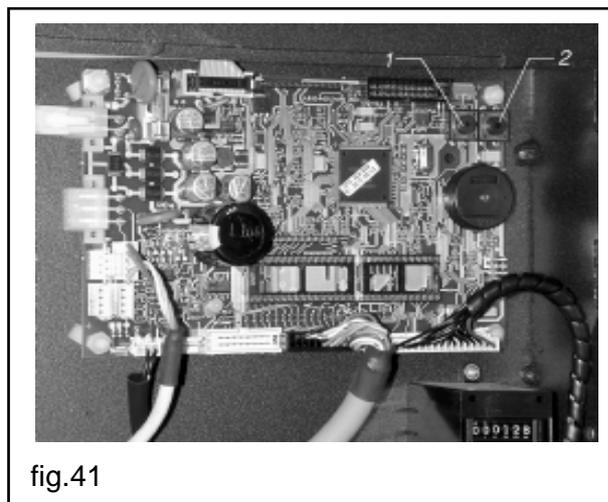
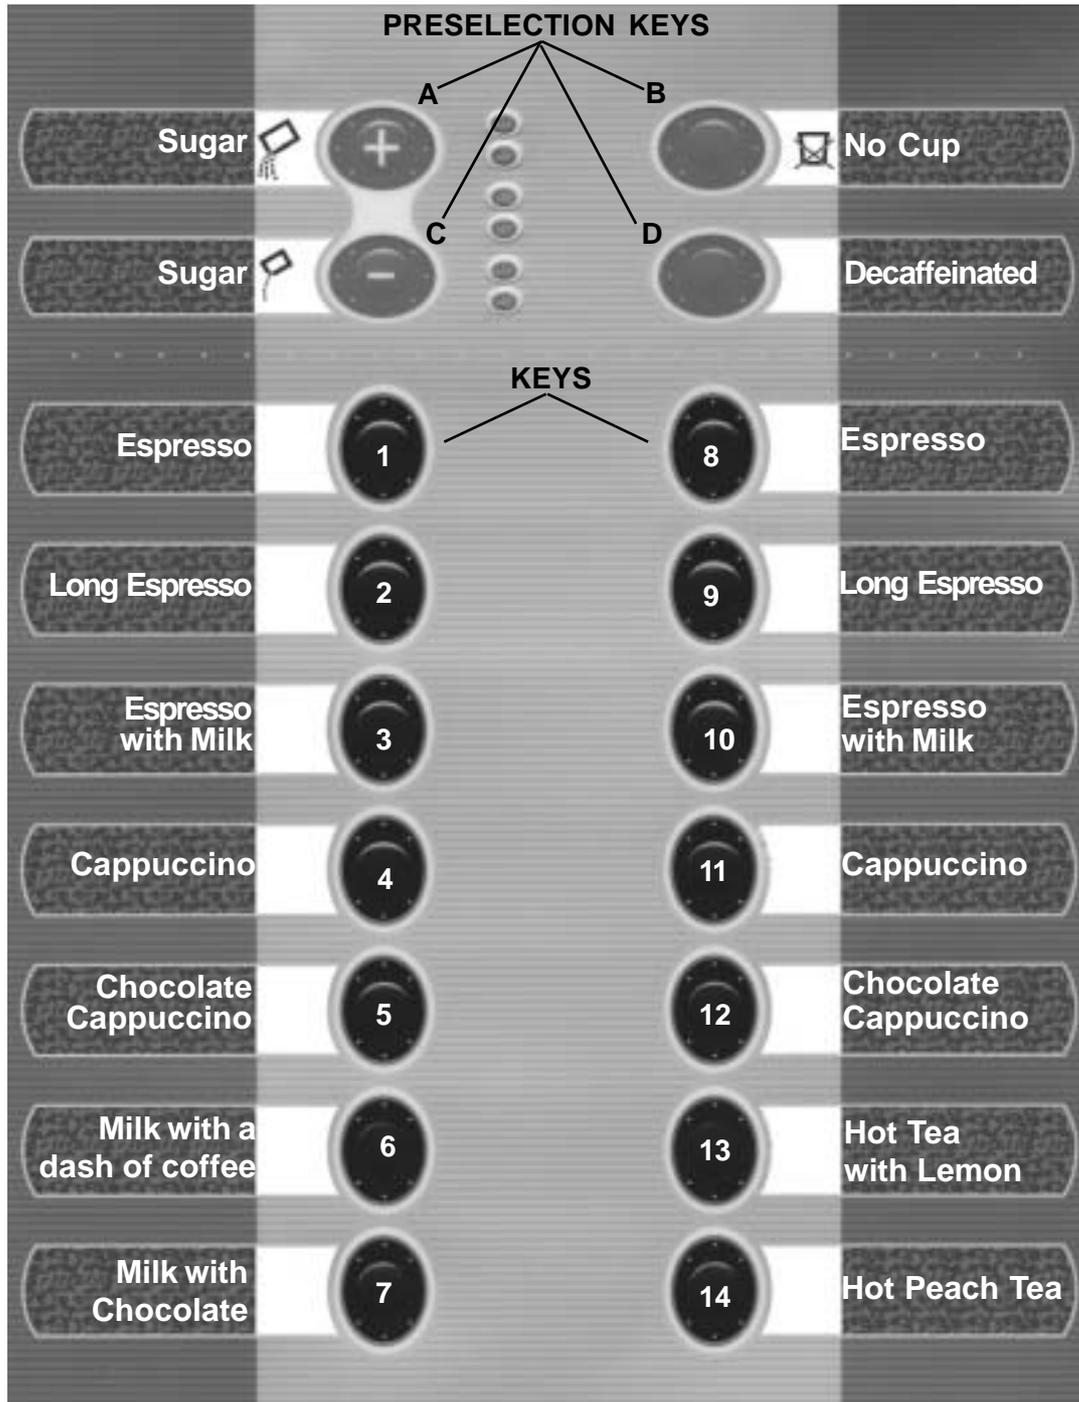

fig.41
fig.42
- The labels indicating the product selections shall be inserted in the special slots according to the order shown in figure 42.
The programming function is accessed by pressing button 1 located on the CPU board (fig. 41). The request for the access code to be entered through the keypad (fig.42) will be displayed.
That is all the data that refers to the logical statuses of the OPTION menu that describes the condition - enabled or disabled - of a specific function. The programming is carried out by using some key of the selection keypad (see fig.42) and especially:
Once parameter adjustment is completed, press button 1 on the CPU board (fig. 41) to exit the programming mode.
KEYPAD (fig.42)
While in SERVICE mode, go first to the SELECTION mode through key 2 on the CPU board (fig.41) and then to the PROGRAMMING mode, through key 1 (fig.41).
Press 'PRG' to exit the programming mode until one of the above mentioned functions appears on the display. Then press the programming key on the CPU board (key 1, fig.41) to go back to the selection mode.